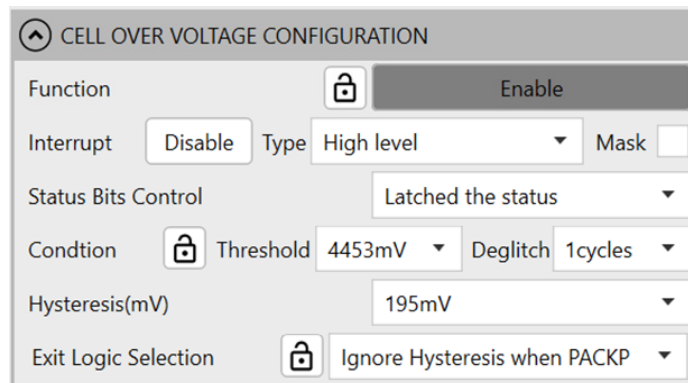

Figure 24: Cell OV Configurations
19. Set the cell over-voltage (OV) parameters (see Figure 24).